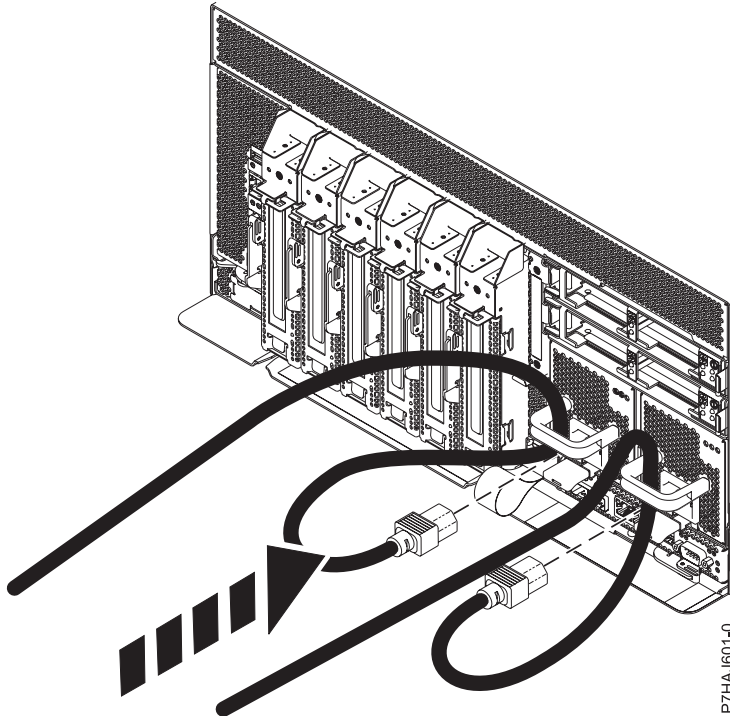

Figure 13. Connecting the power cords
2. Reconnect the power cord to the system unit as shown in Figure 13 on page 28. Ensure that the cords are threaded through the handles.